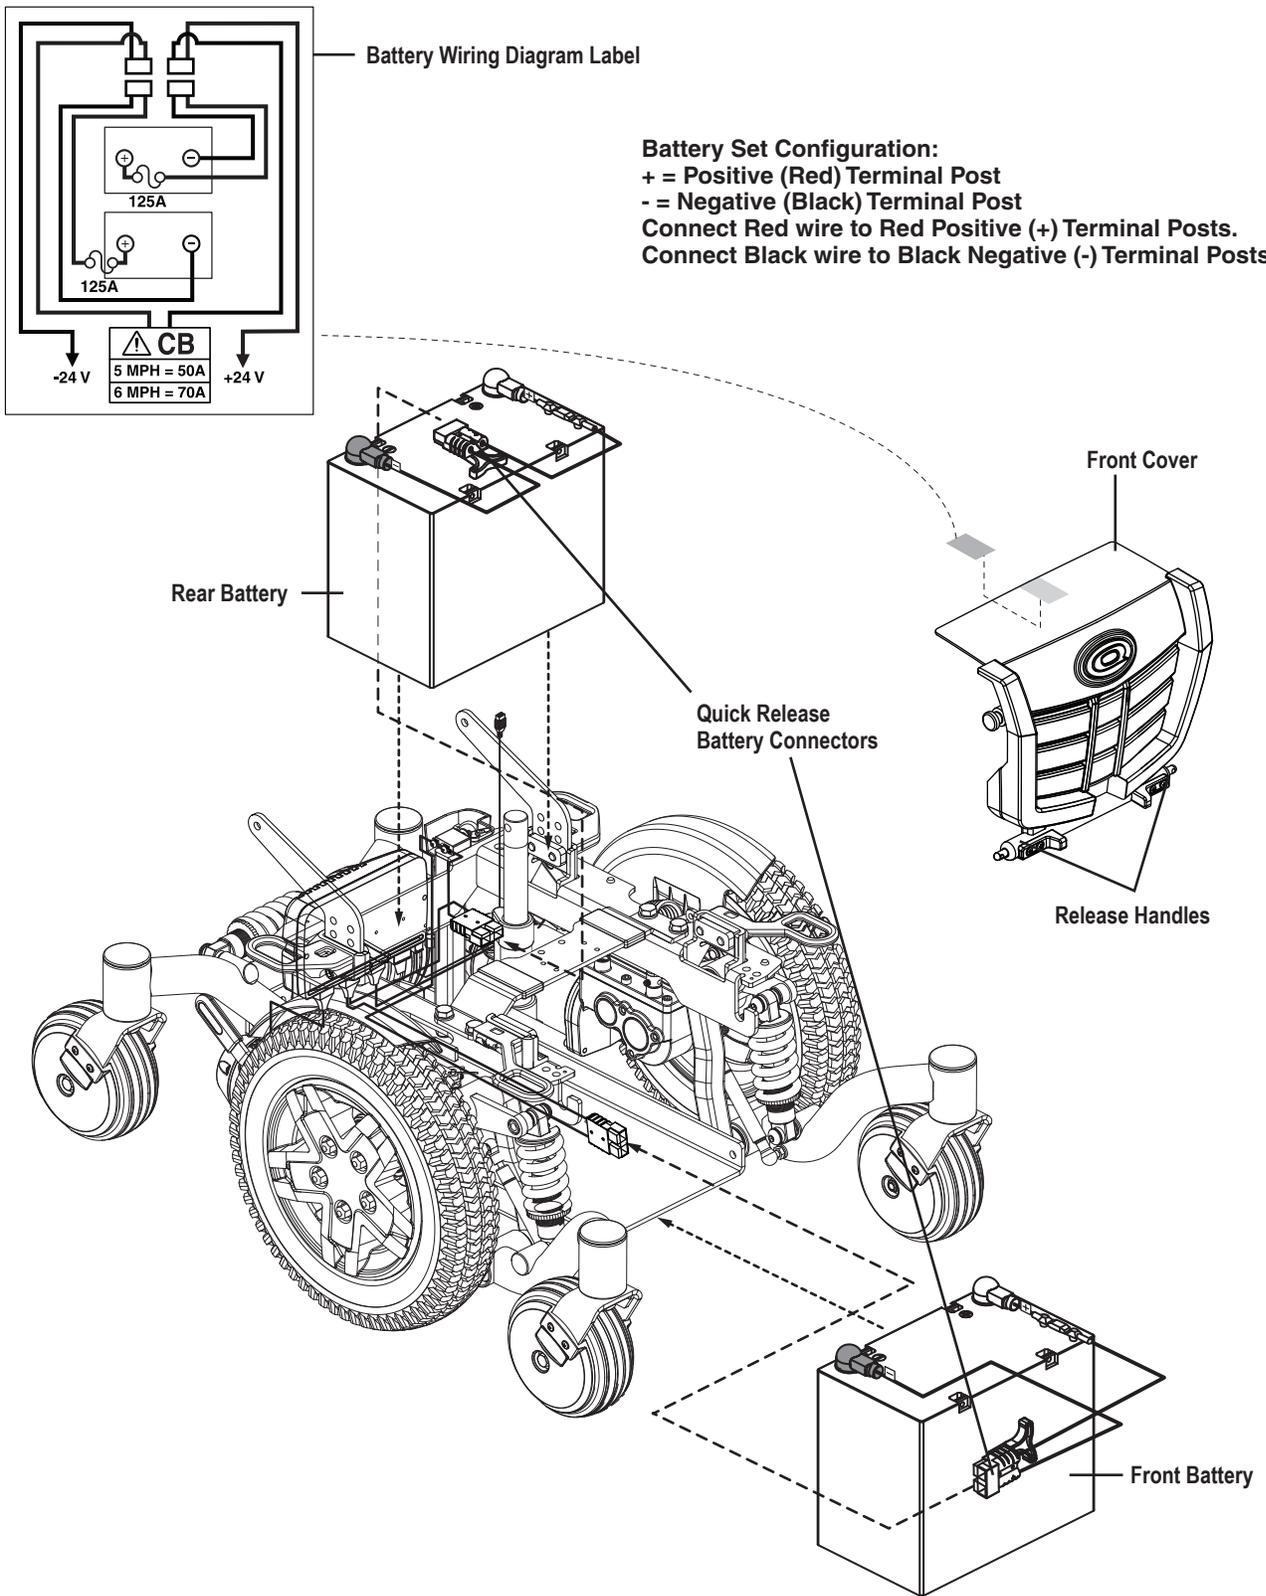

Figure 21. Battery Installation
6. Remove the front cover by squeezing the release handles (**see figure 21**) and lifting the front cover up and away from the power base.
13. Connect the battery harness to the new front battery according to the battery wiring diagram. **See figure 21.**
14. Connect the battery harness to the new rear battery according to the battery wiring diagram. **See figure 21.**